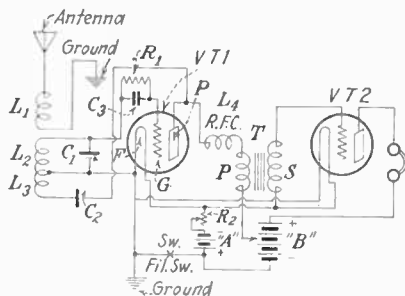

FIG. 91.—Amateur short-wave receiver.
*Ans.* The operation of the receiver illustrated in Fig. 91 is as follows: When the filament switch *SW* is closed and the rheostat *R*2 is properly adjusted, an electronic emission from both filaments will bombard the plates of the detector and